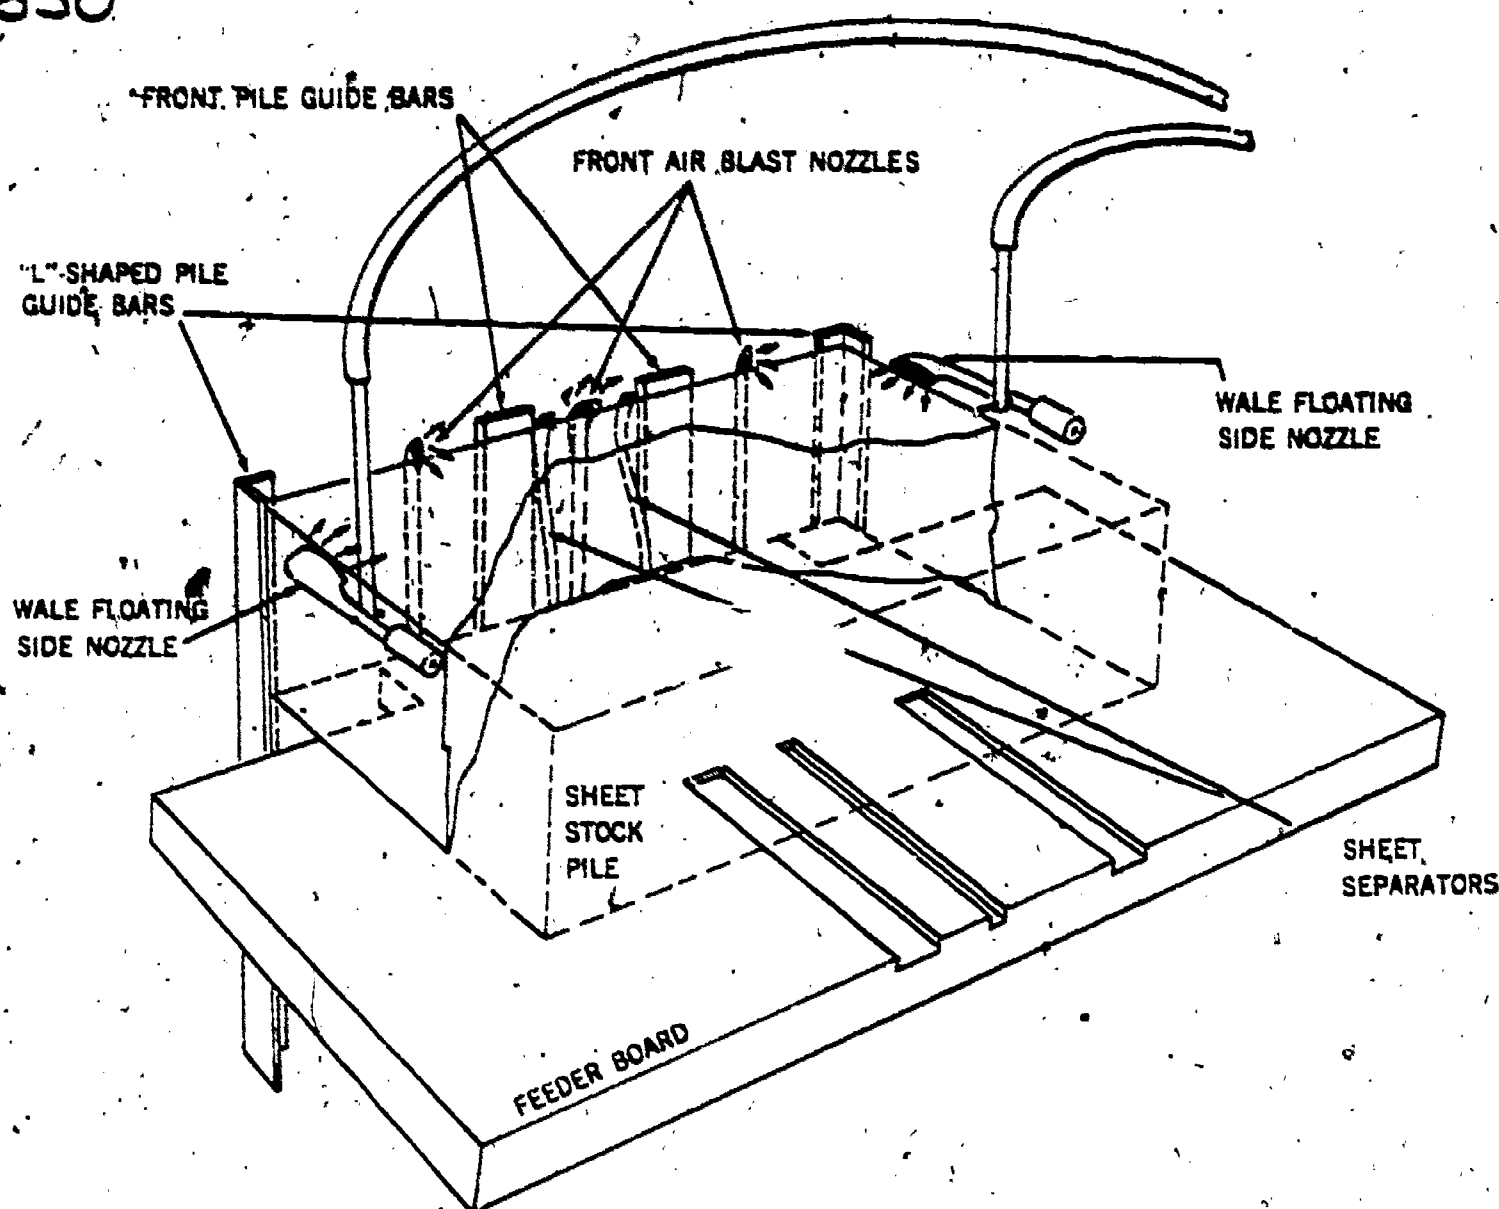
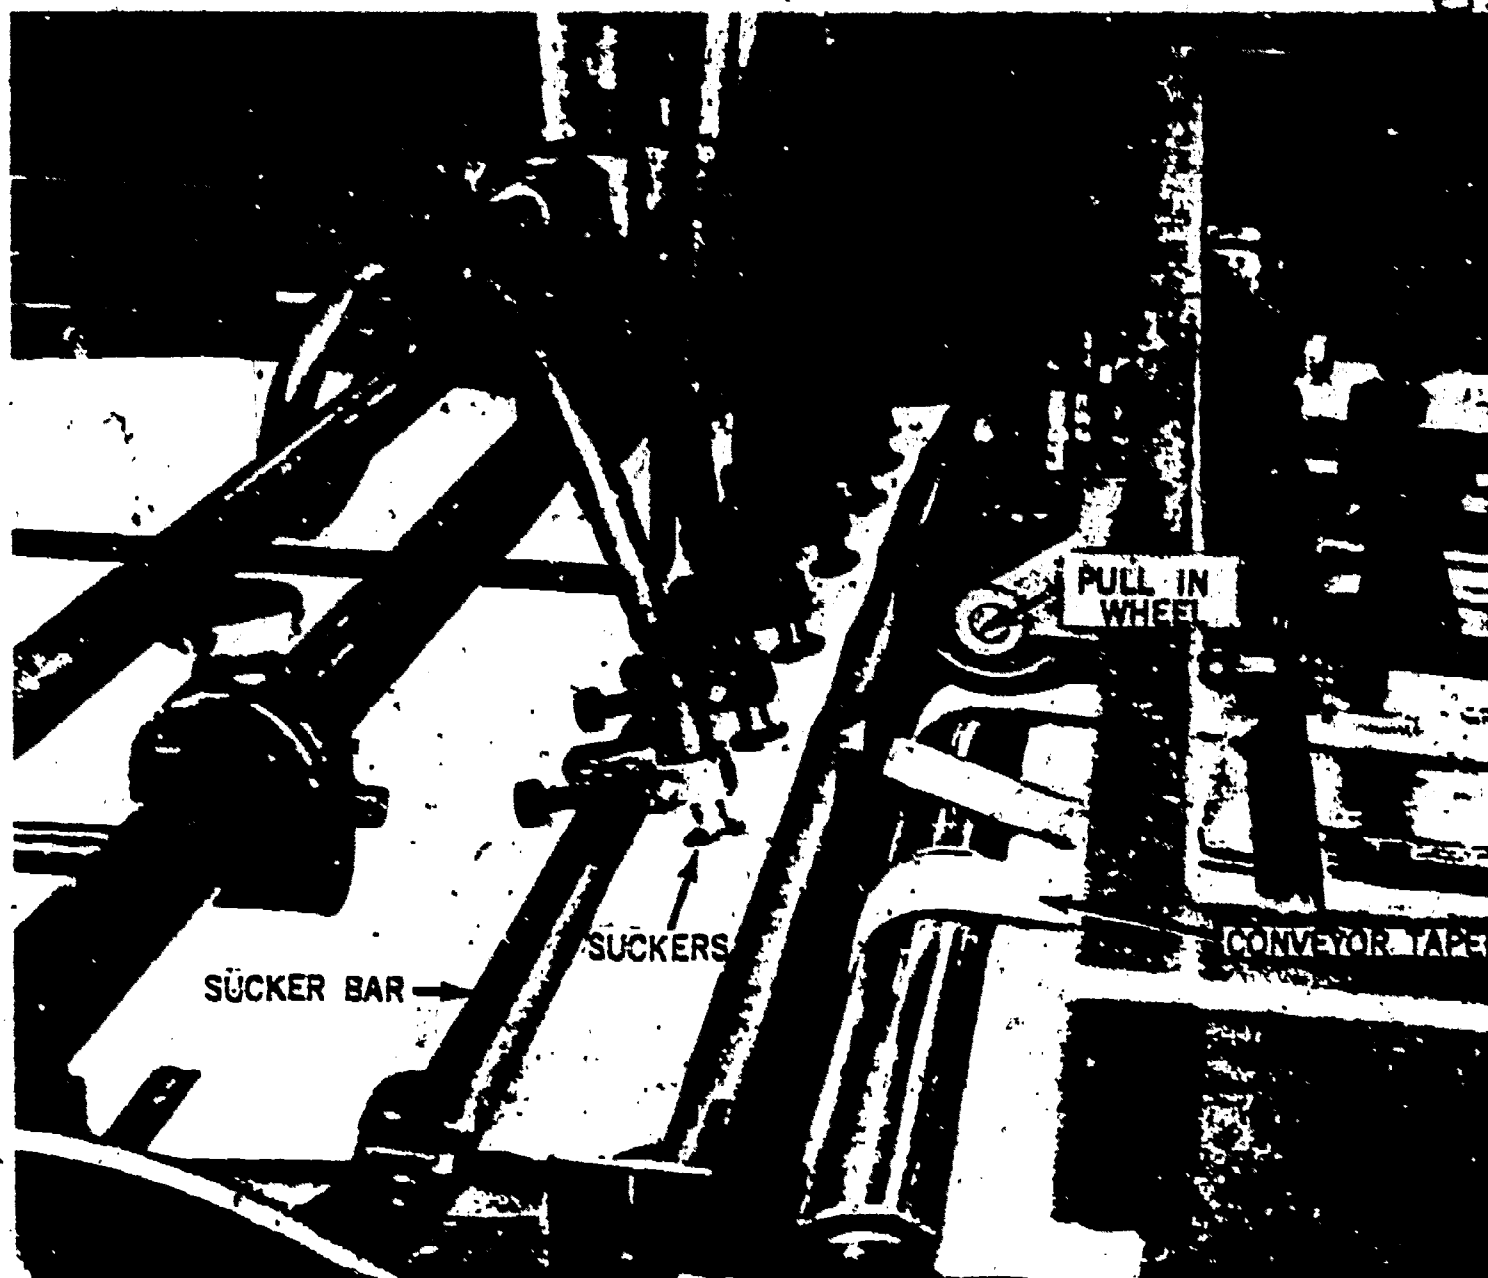

Figure 8-7. Air blast nozzles, front pile guide bars, and sheet separators.
Figure 8-8. Sucker action.
The feeder assembly on an offset press is that part of the paper-handling cycle which separates each sheet of paper, positions it, and passes it into the printing cycle. The feeder assembly consists of two subassemblies. The first is the feeder board with its related sheet handling devices, such as the air blast mechanism (fig. 8-7), which "floats" the top few sheets up from the rest of the pile of paper stock, and the sucker mechanism (fig. 8-8), which picks up the top sheet and moves it forward. The second subassembly is centered about the conveyor board with its related sheet-transporting equipment and sheet-positioning or registering guides, such as illustrated in figure 8-9.
Feeder board	Holds the paper stock to be run through the press. The feeder board rises automatically and allows the sheets to be fed into the press continuously. It may also be raised or lowered manually to permit loading of paper stock (fig. 8-7).
L-shaped pile guide bars.	Used, along with the front pile guide bars and the corner brackets, to hold the stock in a neat pile for feeding (fig. 8-7).
Front pile guide bars	Used, along with the L-shaped pile guide bars and the corner brackets, to hold the stock in a neat pile for feeding (fig. 8-7).
Sheet separators	Steel spring fingers located on the inside edge of the front pile guide bars. They help to prevent more than one sheet from feeding into the press at a time (fig. 8-7).
Wale floating side nozzles	sheet pile so that the suckers can grasp the top sheet and move it forward (fig. 8-7). A patented type of "floating" nozzle which adjusts itself automatically to the top of the pile (fig. 8-7).
Suckers	Used to pick up the top sheet and carry it forward to the point where the pull-in wheels and conveyor tapes carry it forward (fig. 8-8).
Sucker bar	The mounting for the suckers, located at the front edge of the sheet pile (fig. 8-8).
(2) *Setting forward pile guides.* After positioning the folded sheet on the feeder board, bring in flush against the sheet the L-shaped pile guide bar on the side guide side (fig. 8-7). Bring the other L-shaped bar in and set it approximately $\frac{1}{4}$ inch from the edge of the sheet on the opposite side. The front pile guide bars normally need not be moved. They merely help keep the front edges of the sheets aligned. Take care that the corner pile guide bars are not set too tight against the pile for they will bind the sheets, causing poor feeding and registration troubles.
(3) *Sheet separators* (fig. 8-7). The sheet separators need not be adjusted until a different type of paper stock is used. They are set so that the hook on the top of the separator protrudes slightly over the top sheet on the pile when the airblast is on. Use care when setting the sheet separators because they are very easily bent. If it is necessary to adjust the separators, make sure that the safe switches are in the "safe" position.